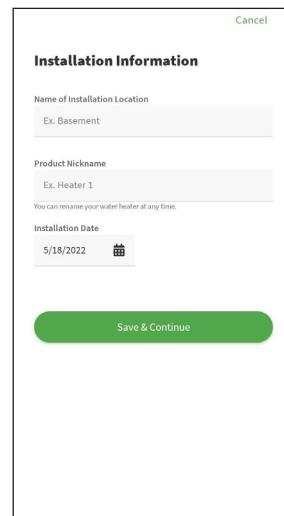

Figure 138 - Installation Information
- 2** Input the required installation information (Figure 138). You may rename the water heater at any time.